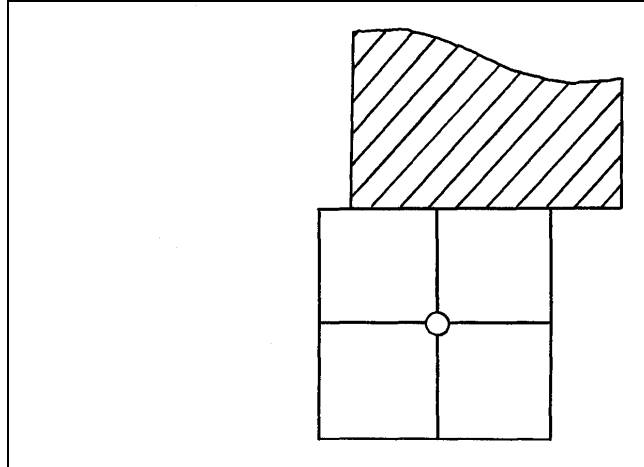

Figure 18
- 5 Move the calibrator exactly one half of the range of measurement and record the actual distance that the calibrator has been moved. *Figure 18* show this position as seen through the viewer.
- 7 For future reference, record the gain setting and the full-scale measurement range in the blank calibration Data Sheet is at the end of this manual. The full-scale measurement range equals twice the distance that the calibrator moved from *Figure 17* to *Figure 18* as read on the calibrator.